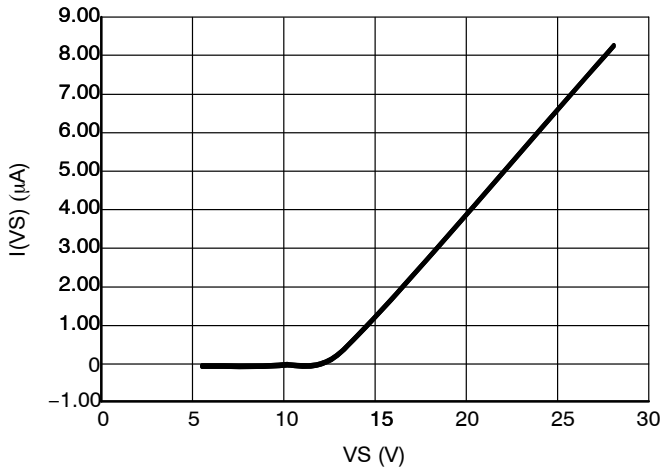

Figure 12. $I(VS)$ Standby Current vs. VS at 25°C
5. Refer to Figures 12 and 17 for the VS standby current behavior.